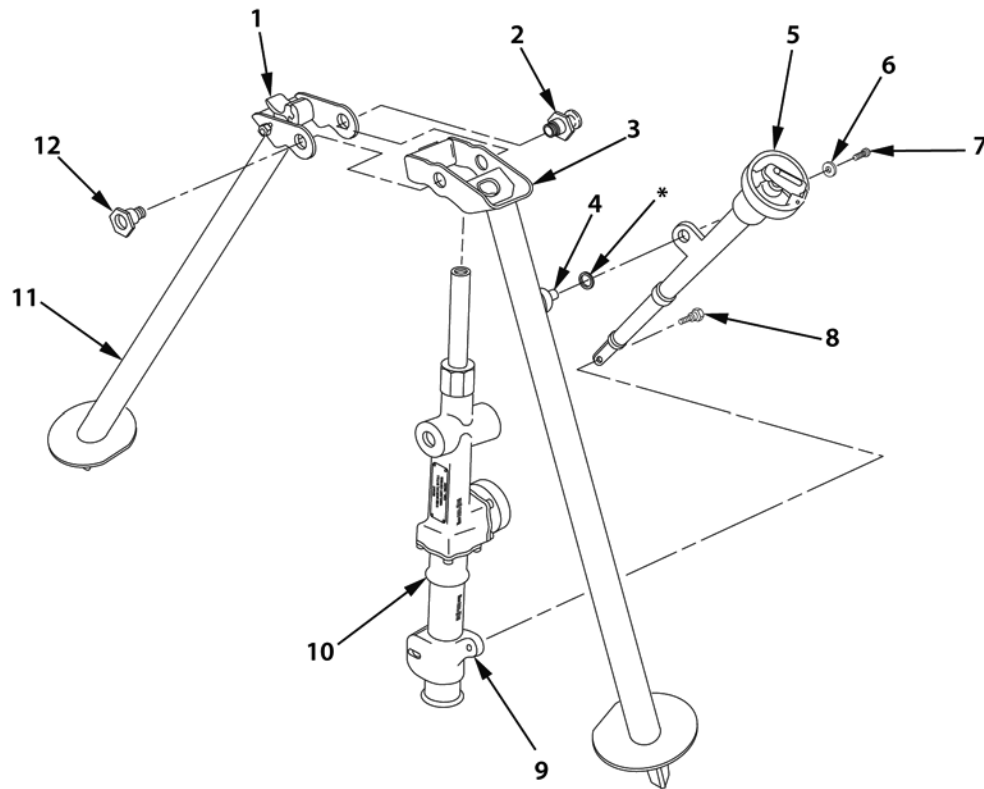

Figure 3. Assembly of Mortar Legs.
1. Align holes in left mortar bipod leg (Figure 3, Item 3) with holes in right mortar bipod leg (Figure 3, Item 11).
2. Slide elevation housing assembly (Figure 3, Item 10) between tops of aligned legs. Center elevation leg mounts in circular holes in legs.
3. Apply sealing compound (WP 0032, Item 23) to threads of leg mounting nut stow (Figure 3, Item 2) and leg mounting nut (Figure 3, Item 12).
4. Install leg mounting nut stow (Figure 3, Item 2) into hand crank side of elevation housing assembly (Figure 3, Item 10).
5. Install leg mounting nut (Figure 3, Item 12) into opposite side of elevation housing assembly (Figure 3, Item 10). Torque leg mounting nut and leg mounting nut stow (Figure 3, Item 2) to 43.5 – 52.5 ft•lb (65 N•m).
6. Depress lock-release lever (Figure 3, Item 1) and ensure that legs open and close easily.
7. Align lug of cross leveling assembly (Figure 3, Item 5) upwards with cant stud (Figure 3, Item 4) on left mortar bipod leg (Figure 3, Item 3) and install flat washer (Figure 3, Item 6) and socket head capscrew (Figure 3, Item 7). Tighten until snug.
8. Check for axial play at cant stud (Figure 3, Item 4).
9. Remove socket head capscrew (Figure 3, Item 7) and flat washer (Figure 3, Item 6). Add shim(s) if needed. Apply sealing compound (WP 0032, Item 23) to threads of capscrew and reinstall flat washer and socket head capscrew. Tighten capscrew until seated.
10. Align hole in rod end of cross leveling assembly (Figure 3, Item 5) with hole in block clamp (Figure 3, Item 9). It may be necessary to move block clamp.
11. Apply sealing compound (WP 0032, Item 22) to threads of shoulder screw (Figure 3, Item 8).
12. Install shoulder screw (Figure 3, Item 8) to secure cross leveling assembly (Figure 3, Item 5) to block clamp (Figure 3, Item 9). Torque to 13.5 – 16.0 ft•lb (20 N•m).